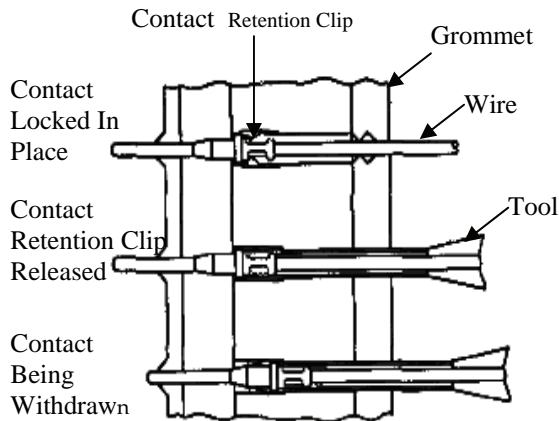

Figure 15. Unlocking Contact
d. Insert tool into contact cavity until tool tip bottoms against contact shoulder (Figure 15). A slight increase in resistance will be noticed just before the tool tip bottoms. This will spread the retention clips and release its hold on the contact.